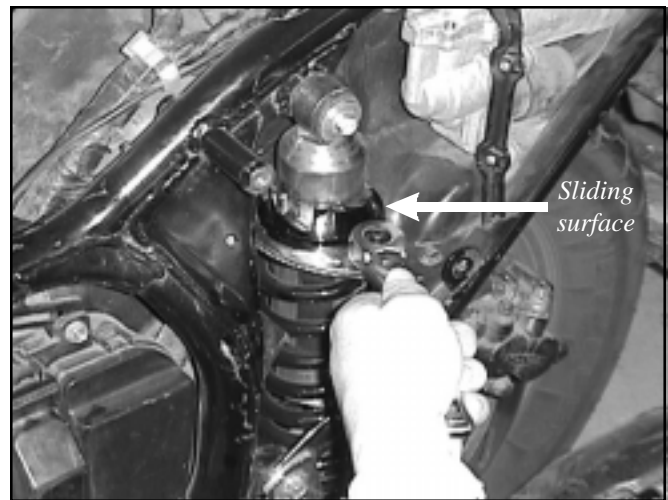

Figure 2
4. After installing the 450 shock assembly onto the motorcycle note the cam adjuster settings recommended for different weight loads. Although your air shock will adjust to compensate for different loads we have added a spring pre-load adjuster that allows spring adjustment which will keep your air pressure in a more usable range. You must set this pre-load cam before installing your saddlebag back on your motorcycle (see figure 2).
For easier spring pre-load adjustment, put a small amount of cam adjuster lube (supplied) on the sliding surface prior to rotating the cam (see figure 2).